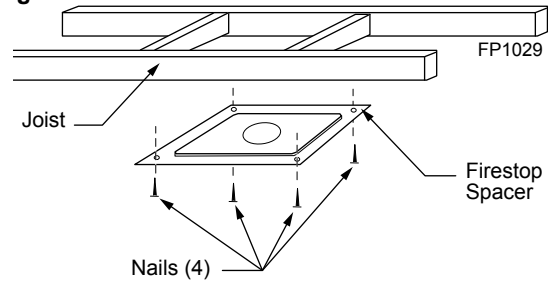

Figure 42 - Place Firestop Spacer(s) and Secure
- 7DVCS supports offsets. *Figure 42*. This application will require that you first determine the roof pitch and use the appropriate starter kit. (Refer to Venting Components List)
6. Place firestop(s) or Attic Insulation Shield into position and secure. *Figure 42*